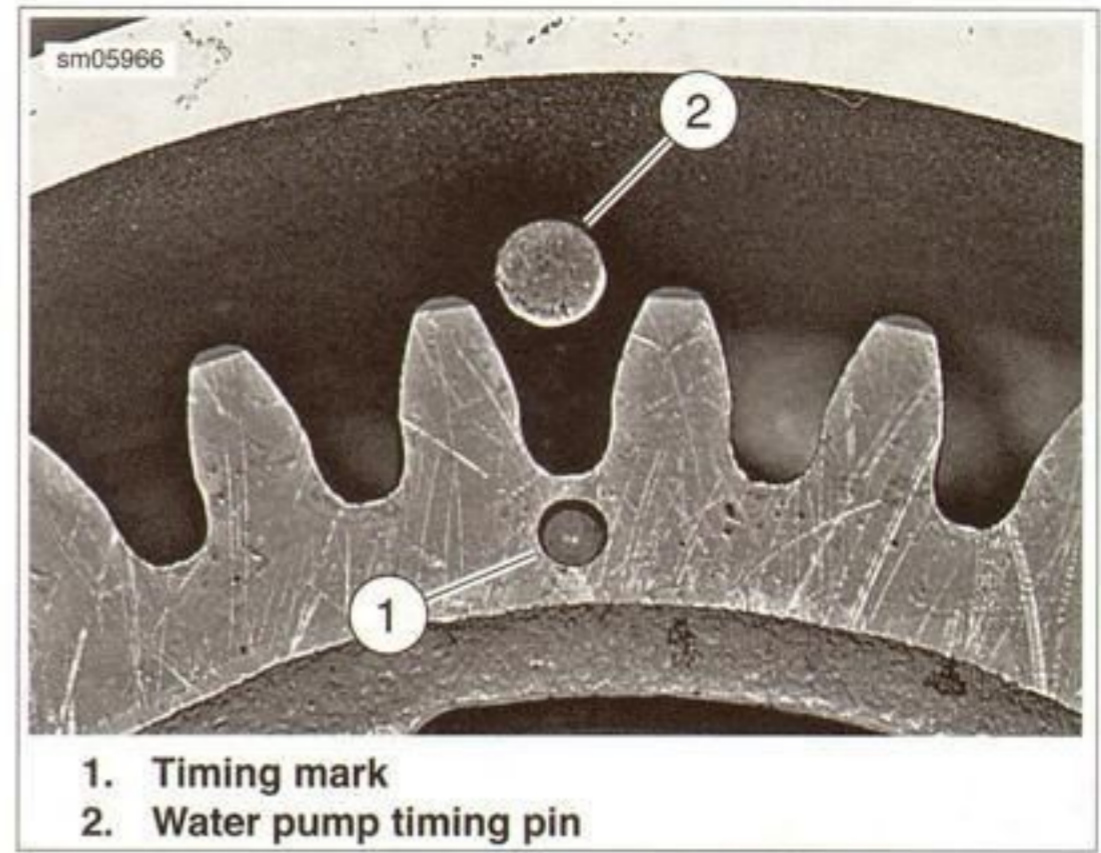

Figure 3-117. Match Timing Mark to Pin
2. See Figure 3-117. Rotate the shaft in the water pump housing until the timing mark on the gear aligns with the timing pin hole.